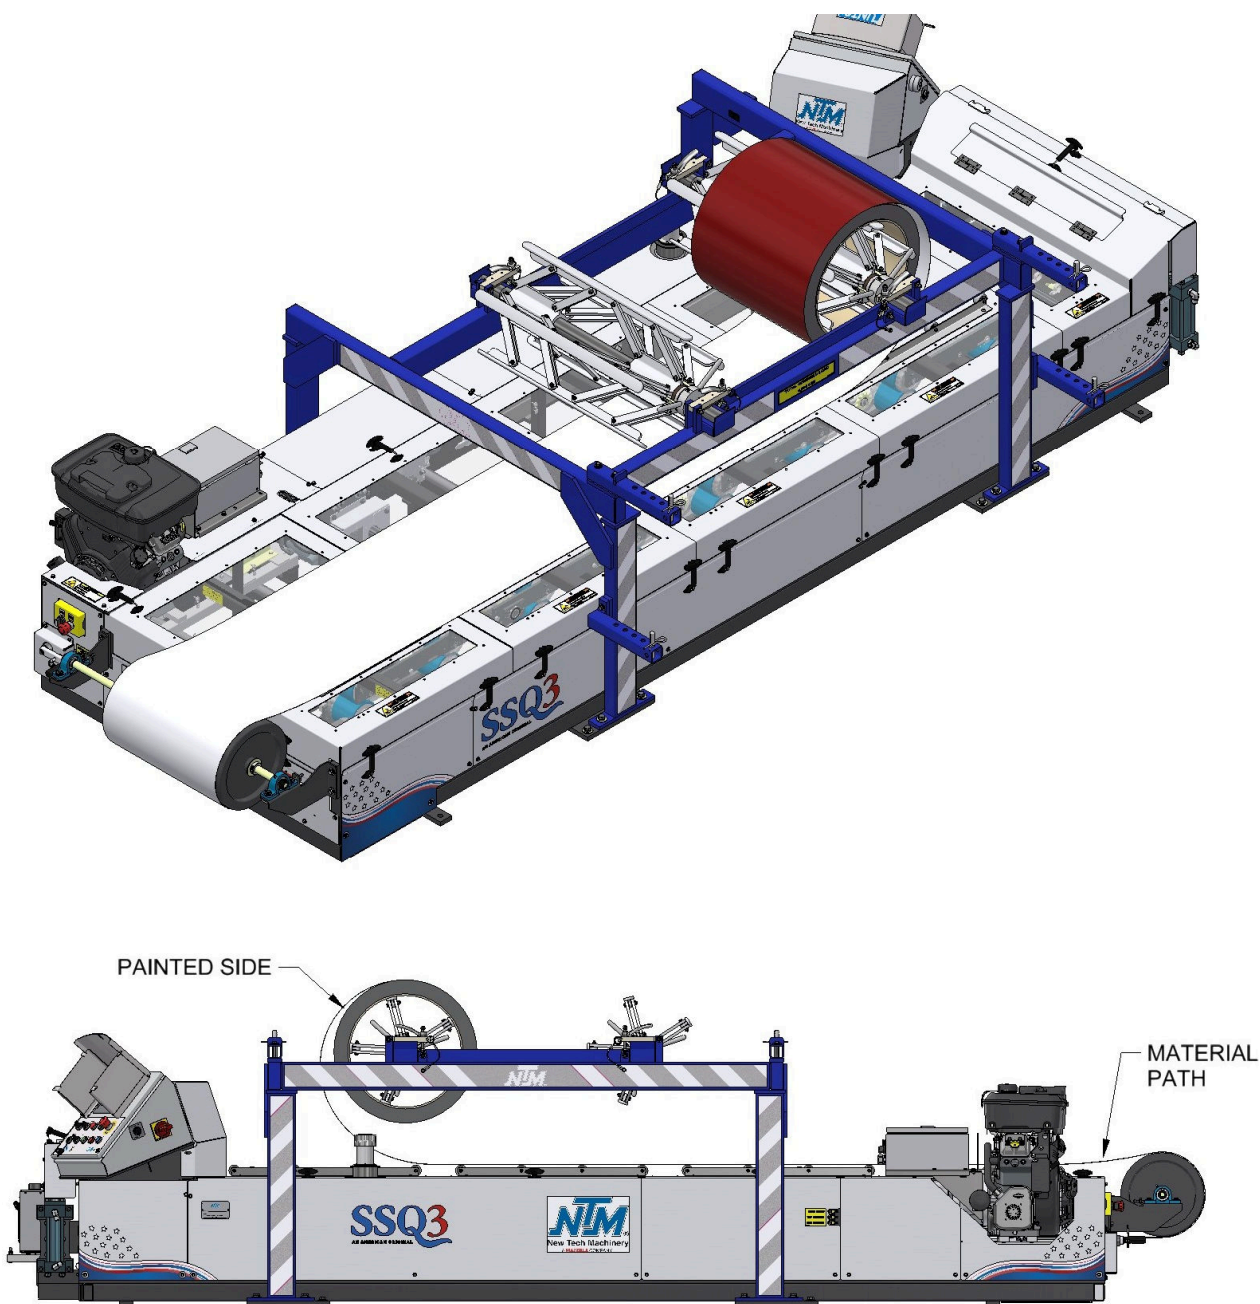

Figure 18: Material Routing
2. Using an approved lifting device, lift the reeled coil into the cradles on the reel stand making sure that the tail of the coil is in the correct position (Figure 18) then remove the lifting device.